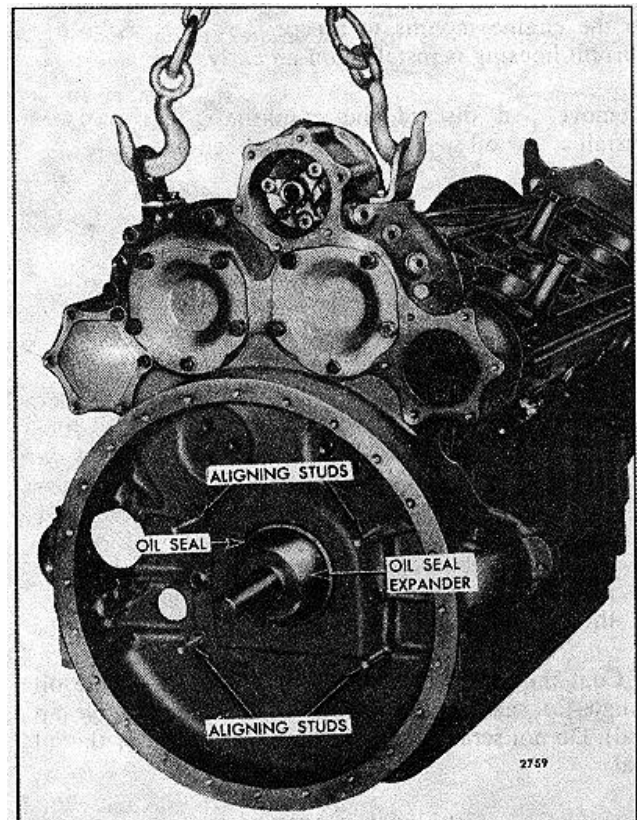

FIG. 1 - Removing or Installing Flywheel Housing
4. To guide the flywheel housing, until it clears the end of the crankshaft, thread four pilot studs J 1927-01 into the cylinder block (Fig. 1).
4. Thread four pilot studs J 1927-01 into the cylinder block to guide the housing in place (Fig. 1). Use oil seal expander J 22425 (standard size seal) or expander J 4195-01 and handle J 8092 (oversize seal) on the